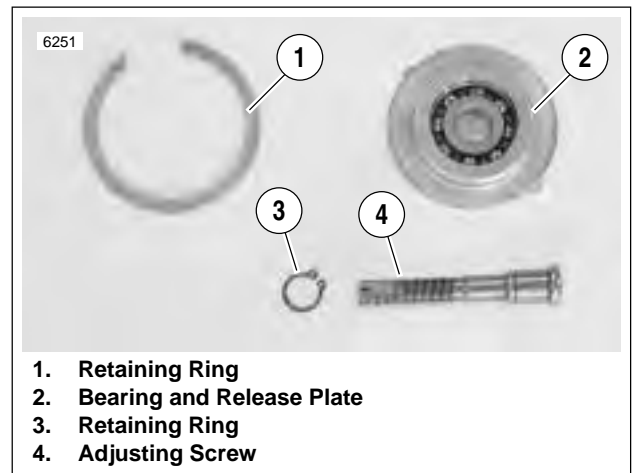
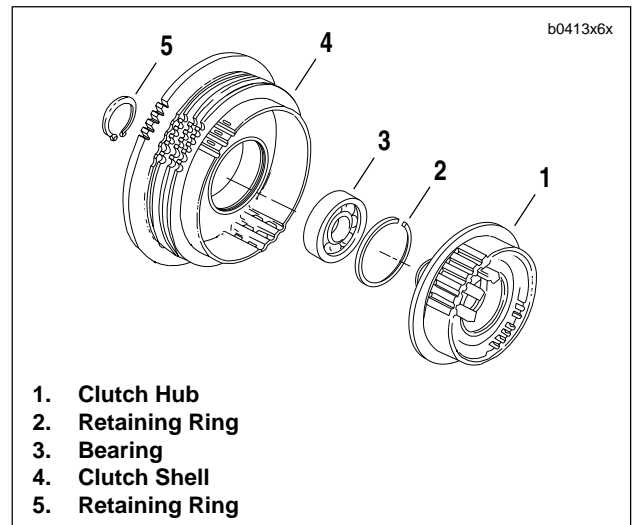

Figure 6-17. Adjusting Screw Assembly
Figure 6-22. Clutch Hub and Shell Assembly
4. See Figure 6-17. Remove adjusting screw assembly.
- a. Remove large retaining ring (1).
- b. See Figure 6-17. Secure the adjusting screw assembly with large retaining ring (1).
- a. Place a wrench on the clutch spring forcing screw (1) flats to prevent the forcing screw from turning.
- b. Turn the compressing tool handle (5) counterclockwise until the handle spins off.
- c. Remove washer (4), bearing (3) and bridge (2).
- d. Remove clutch spring forcing screw (1) from clutch adjusting screw.
- e. Remove spring seat (9) and diaphragm spring (6) from pressure plate (7).
11. See Figure 6-17. Remove and disassemble adjusting screw assembly.
- c. If necessary, disassemble adjusting screw assembly. Remove and discard small retaining ring (3) and then separate the adjusting screw (4) from the bearing and release plate (2). Remove bearing from release plate.
- See Figure 6-22. Assemble clutch hub and shell if necessary.
- Press **new** bearing (3) in clutch shell (4). Secure bearing with a **new** retaining ring (2).
- Press inboard end of clutch hub (1) into shell bearing (3). Secure with **new** retaining ring (5) on end of hub.
- See Figure 6-17. Place bearing inside release plate. Insert adjusting screw (4) through bearing and release plate (2). Secure with **new** retaining ring (3).
- b. See Figure 6-17. Secure the adjusting screw assembly with retaining ring.